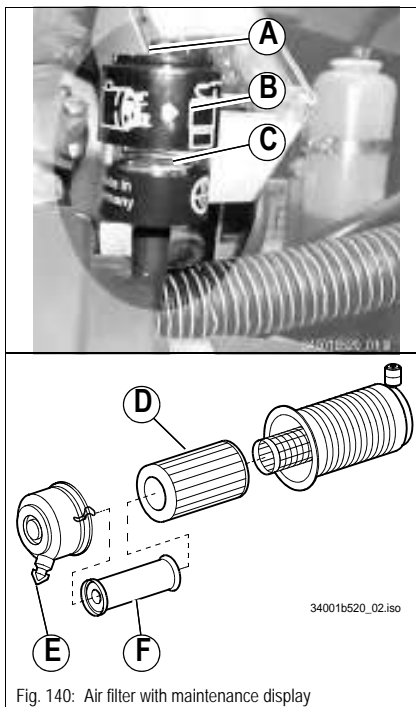

Fig. 140: Air filter with maintenance display
- ☞ Clean the dust valve fig. 140/E.